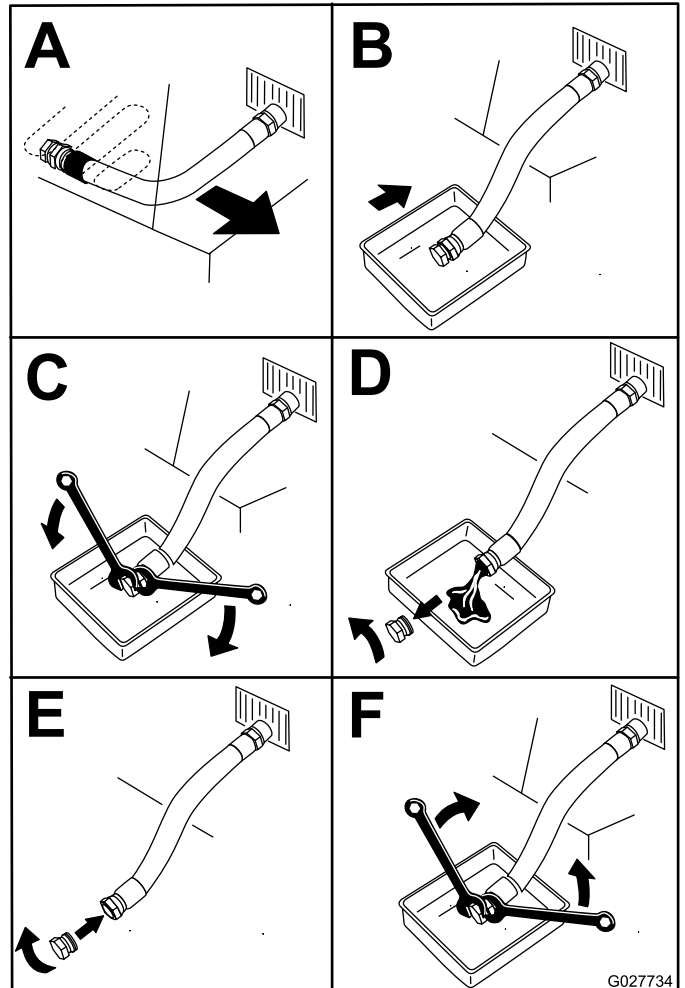

Figure 62
5. Drain the oil from the engine (Figure 62).